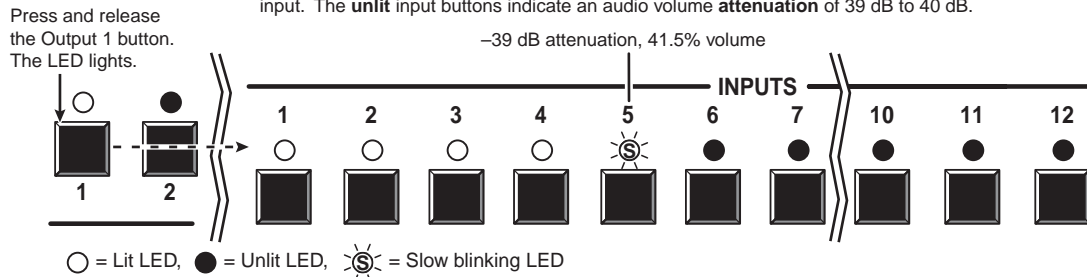
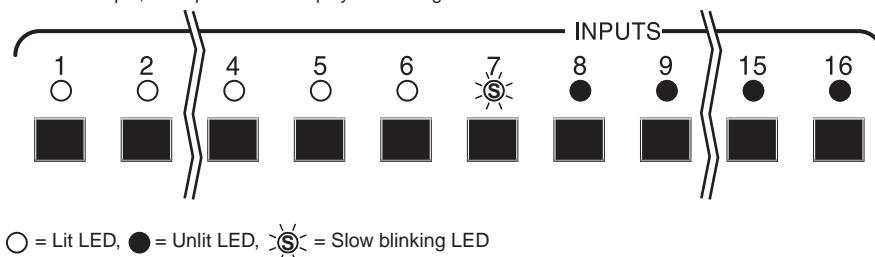
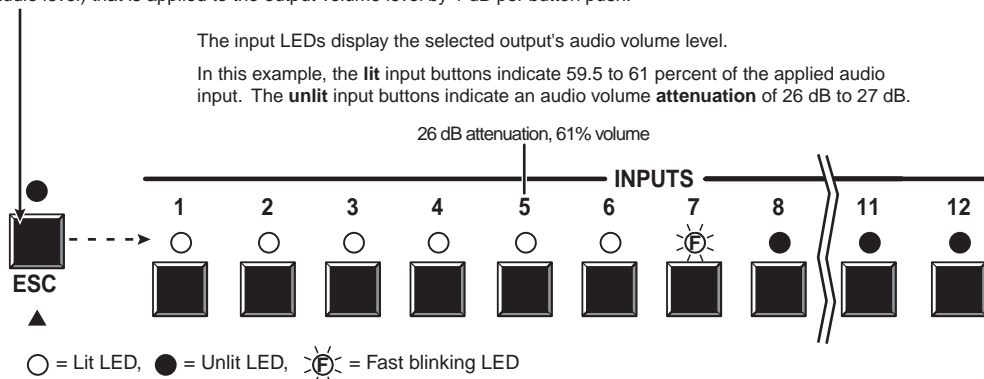
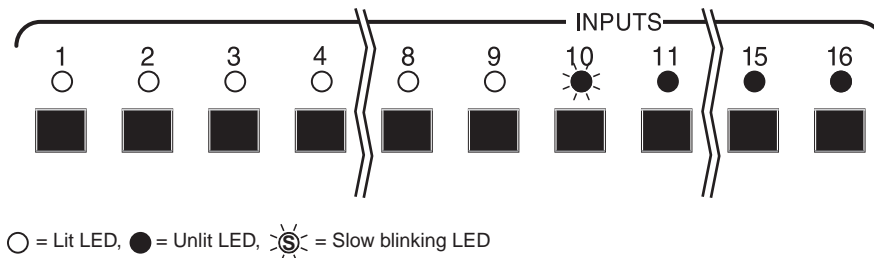

Figure 3-51 — Select output 1
Figure 3-52 — Volume display on a 16-output-button switcher
Figure 3-53 — Adjust the output audio volume
Figure 3-54 — Volume display on a 16-output-button switcher
Audio output volume is displayed differently on different models. See the table on page 3-31. For this reason, figure 3-52 and figure 3-54 show the indications displayed on a switcher with 16 output buttons without duplicating all of the actions shown in figure 3-51 and figure 3-53, which show all actions on switchers with 12 output buttons.
3. Press and release the output 1 button (figure 3-51).
Figure 3-52 shows the same volume (41.5%) as in figure 3-51, but displayed on a 16-output-button switcher, such as a CrossPoint 300 816 HVA.
4. Press and release the Esc (▲) button once (figure 3-53) to increase the volume by 1.5%.
Press and release the Esc (▲) button several more times (figure 3-53) to increase the volume by 1.5% per button push. Note the input button indication changes that occur each time the Esc (▲) button is pressed and released.
Figure 3-53 show the result of pressing the Esc (▲) button a total of 13 times.
Figure 3-54 shows the same volume (61%) as in figure 3-53, but displayed on a 16-output-button switcher, such as a CrossPoint 300 1616 HVA.